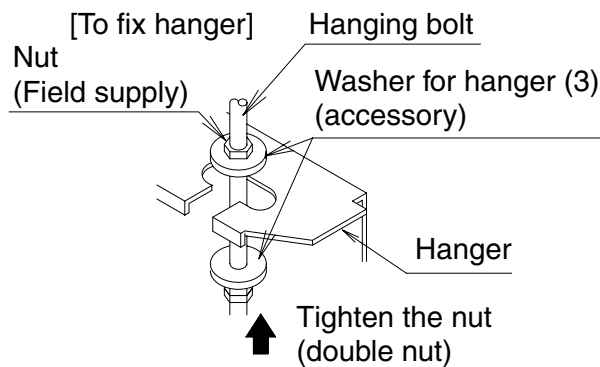

Fig. 2
(1) Install the indoor unit temporarily.
Make sure to securely fix the hanger with the nut and the washer for hanger (3) from the upper and lower side. **(Refer to Fig. 2)**